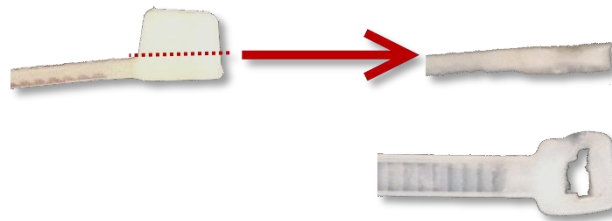

Figure 18: Required cut for zip-tie
4. Cut a zip-tie's receiving end so that the thickness is constant along the entire zip-tie. Sidecutters work best for this operation; fine adjustments can be made with a hobby knife when necessary. The cut is illustrated in Figure 18. This end of the zip-tie will serve as the stopper at the tip of the finger.